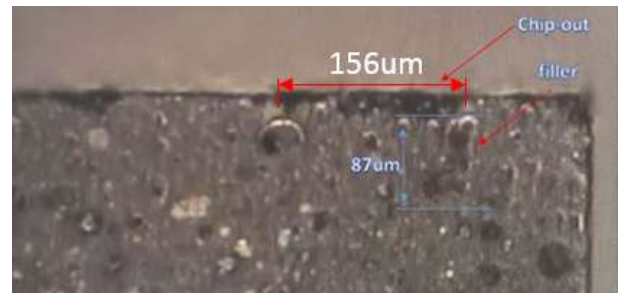

Fig. 2. Example of package chip-out during mold process.
- Conventional package singulation technique comes with some process/assembly related rejections namely metal burrs, un-cut unit, shallow cut, delamination and package chip-out illustrated in Fig. 2